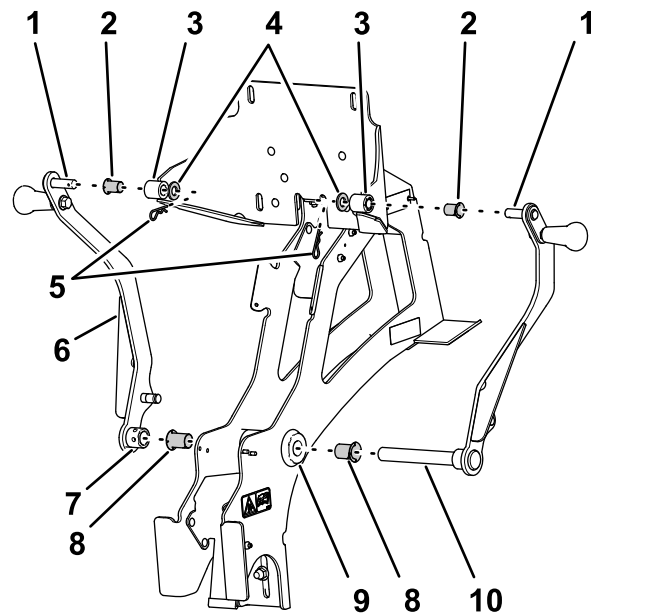

Figure 16
1. Insert a flanged bushing (3/4 inch inside diameter) into each end of the pivot tube in the main-support frame (Figure 16).
2. Insert a flanged bushing (1/2 inch inside diameter) into the left and right hubs of the back plate (Figure 16).
3. Assemble the lower pivot pin of the right cradle arm through the flanged bushing at the right side of the pivot tube and the pivot (Figure 16).
4. Assemble the upper pivot pin of the right cradle arm through the right hub of the back plate (Figure 16).
5. Secure the upper pivot pin to the back plate with a washers (1/2 inch) and hairpin (Figure 16).
6. Assemble the hub of the left cradle arm over the end of the lower pivot pin of the right cradle arm that is protruding to the left of the left flanged bushing in pivot tube (Figure 16).
7. Assemble the upper pivot pin of the left cradle arm through the left hub of the back plate (Figure 16).
8. Secure the upper pivot pin of the left cradle arm to the back plate with a washer (1/2 inch) and hairpin (Figure 16).